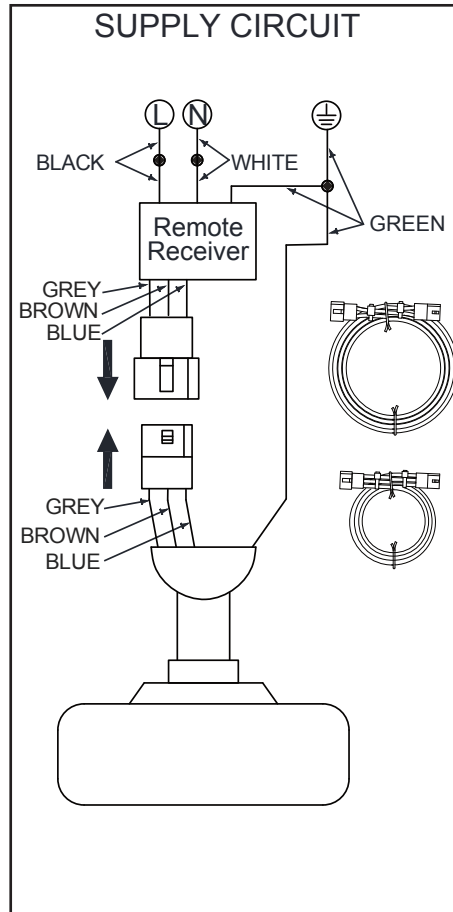

Figure 14
1. If using the 6 in. ball downrod assembly provided, wire the receiver to the fan wires by connecting the molded adaptor plug from this receiver with the molded adaptor of the fan motor assembly together. (Figure 14)